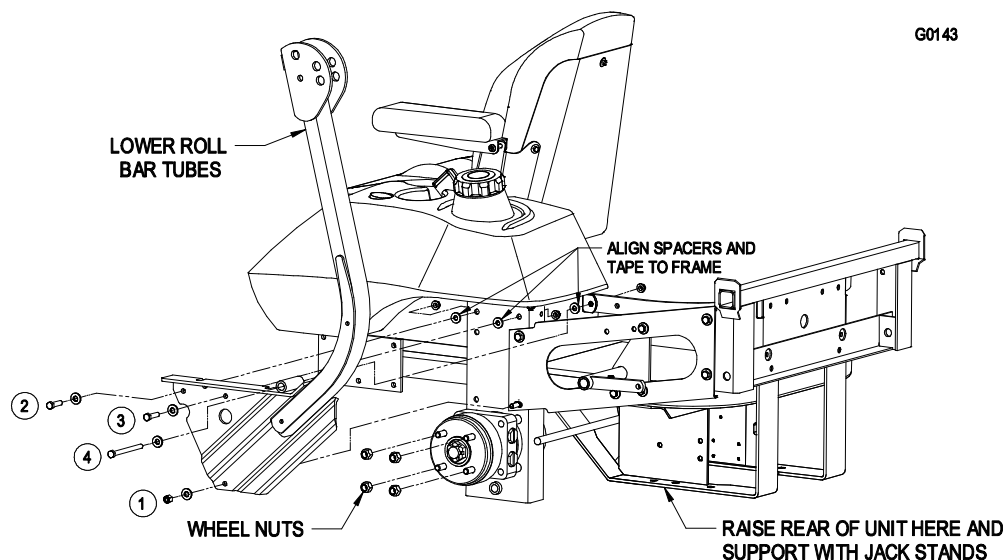

FIGURE 3
- Align three spacers on each side and tape with masking tape to the rear frame as shown in Figure 3.
- Align lower roll bar tubes along wheel motor channels as shown in Figure 3.
- LOOSELY** install the lower roll bar hardware from the bolt bag to the tubes in the following order (Reference Figure 3 for alignment and installation instructions below):